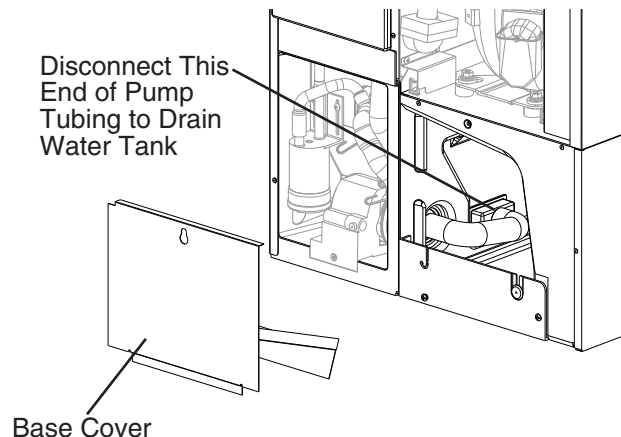

Fig. 14
- 7) Remove the base cover, then disconnect one end of the pump tubing to drain the water tank. See Fig. 14.
- 5) Remove the base cover, then disconnect one end of the pump tubing to drain the water tank. See Fig. 14. After the water tank has drained, reconnect the pump tubing.